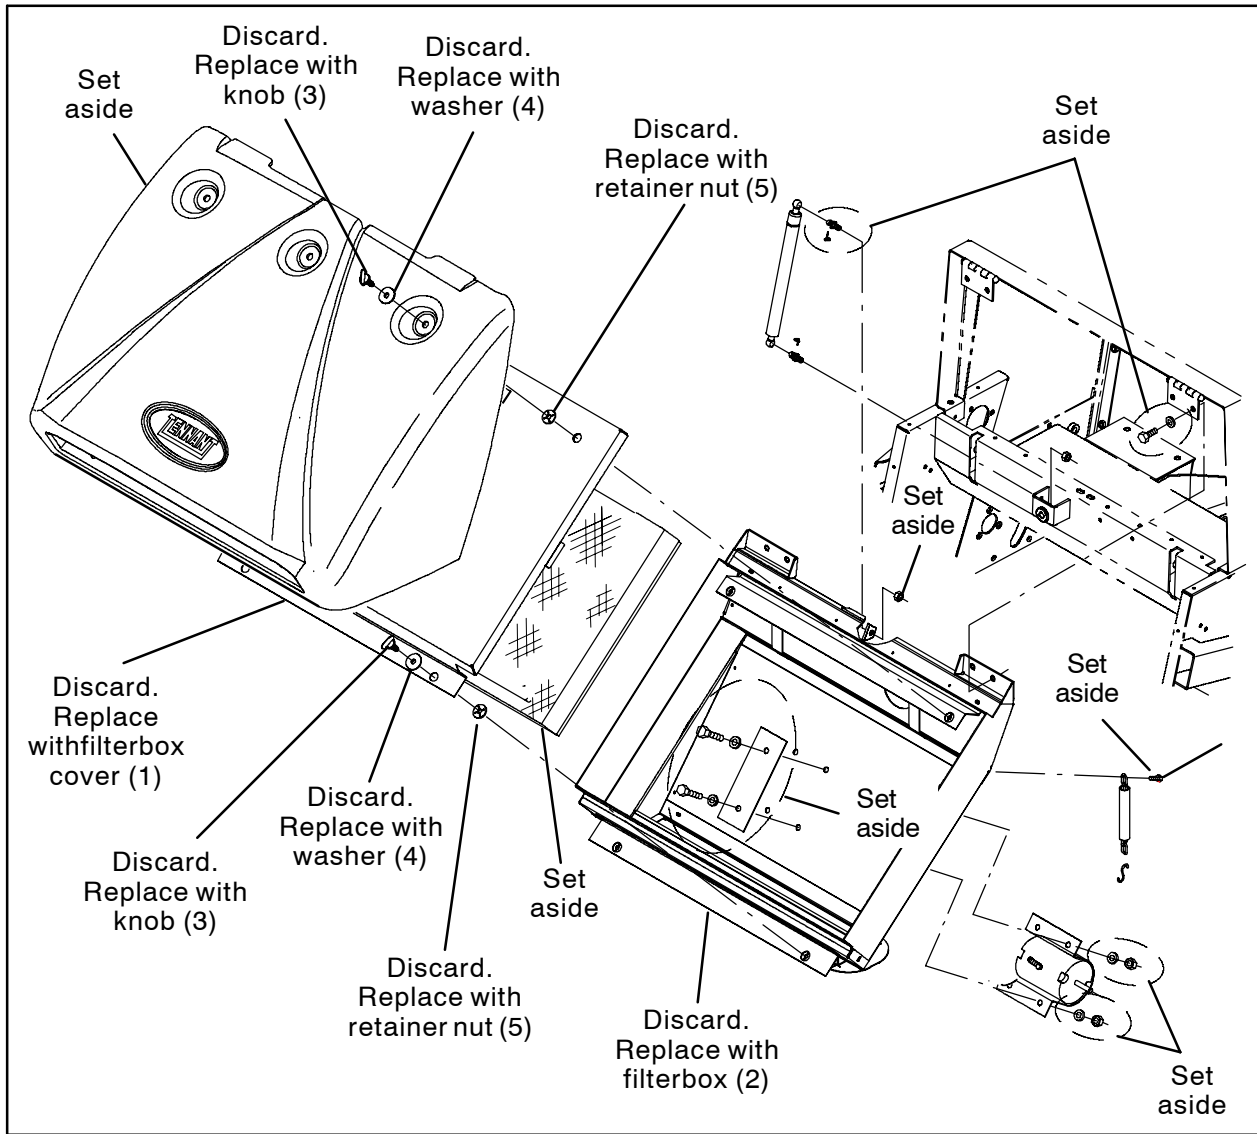
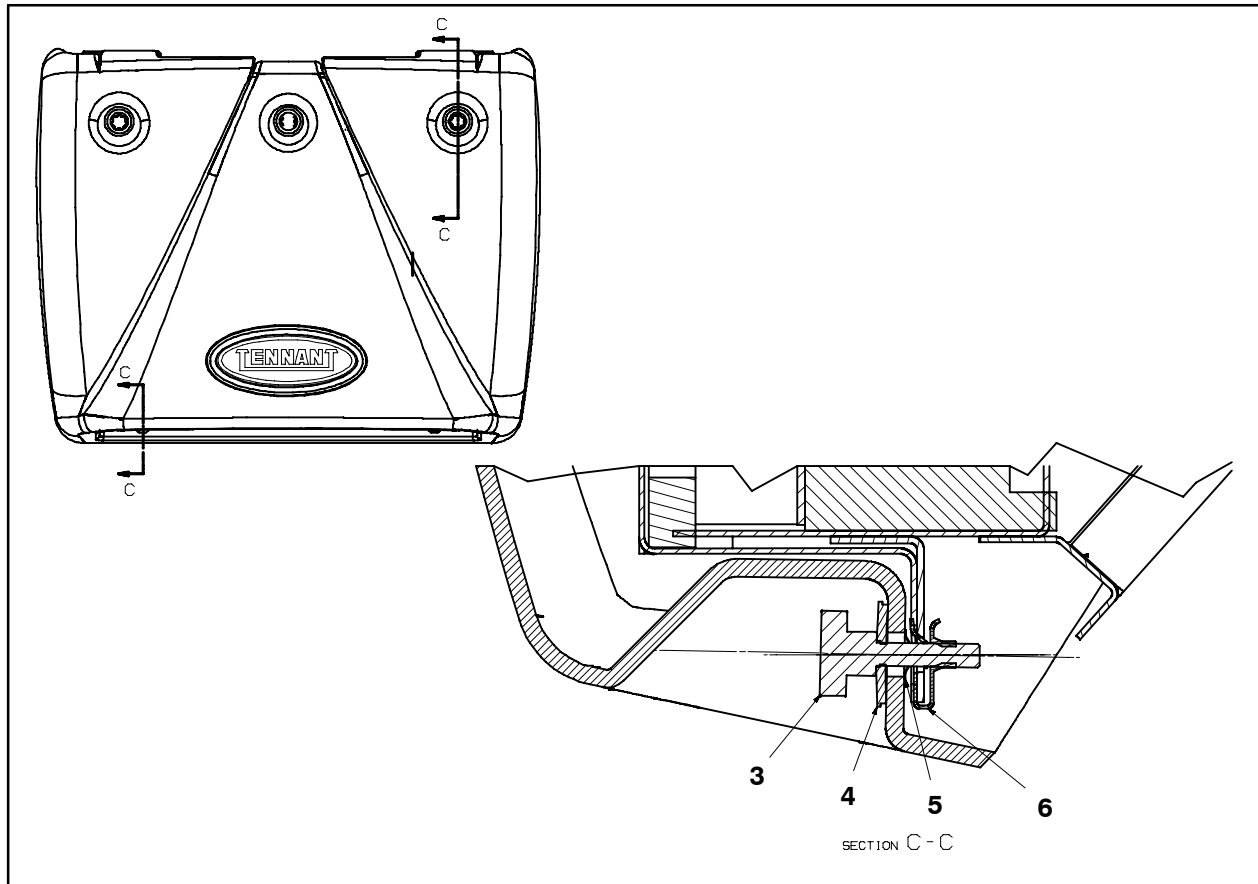

FIG. 2
FIG. 4
NOTE: Refer to Fig. 2 for locations of all parts removed in Step 2 through Step 6.
2. Install the rubber seal (8) onto the new filterbox cover (1). Refer to old filterbox cover and Fig. 2 for seal location.
3. Place the new filterbox weldment (2) into the machine and install the gas spring, vinyl sleeve, and filter shaker onto the filterbox weldment. Refer to Fig. 2.
4. Secure the filterbox weldment (2) to the machine. Refer to Fig. 2.
5. Reinstall the dust filter and seal onto the machine. Refer to Fig. 2.
6. Install the new filterbox cover (1) onto the machine. Refer to Fig. 2.
7. Use the five knobs (3), washers (4), retainer nuts (5), and clips (6) to secure the front cover to the machine. Refer to Fig. 2 and Fig. 4 for locations of parts.